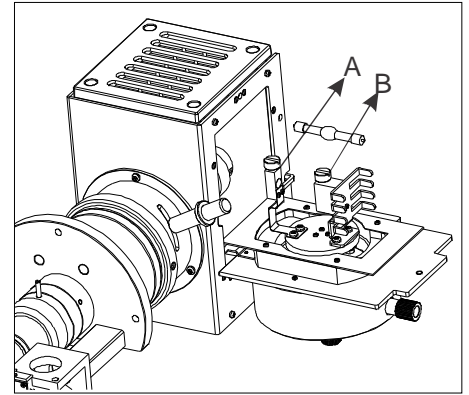

Fig. 6
To avoid any damage to the mercury vapor lamp, a plastic rod (1) is fitted in place of lamp during transit. Remove this rod by loosening the two screws indicated by the two arrows A and B shown in Fig. 6.
Mount the mercury vapor lamp in place of plastic rod and tighten the screws to secure the lamp. install as shown in Fig. 6.A.